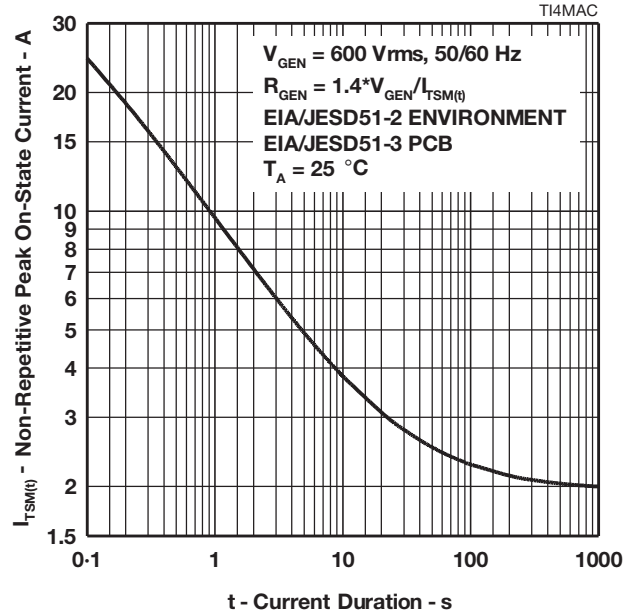

Figure 11.
10. EIA/JESD51-2 environment and EIA/JESD51-3 PCB with standard footprint dimensions connected with 5 A rated printed wiring track widths. See Figure 11 for the current ratings at other durations. Derate current values at $-0.61\text{ }^\circ\text{C}$ for ambient temperatures above $25\text{ }^\circ\text{C}$.